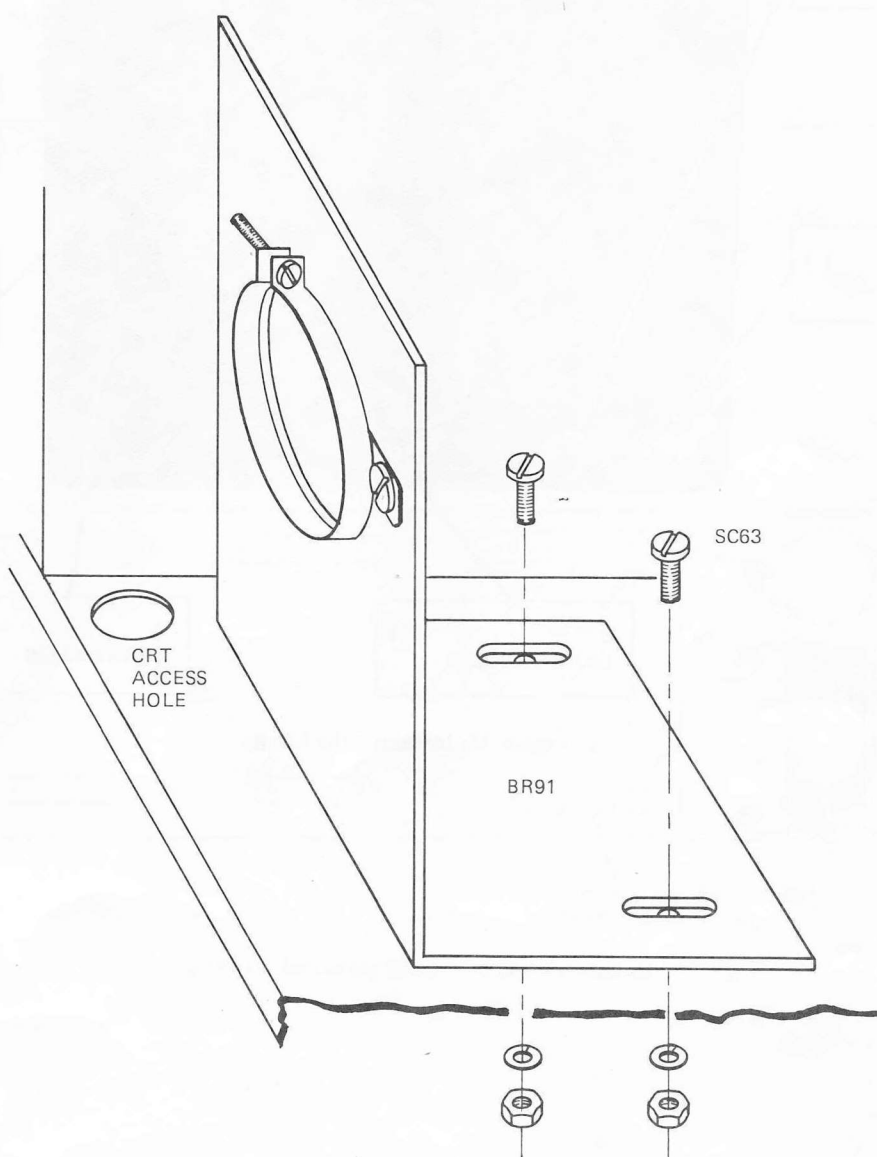

Figure 37. Installing BR91.
(5) Install BR91 on the main chassis using two 6-32 \times 1/4" machine screws, lockwashers, and nuts as shown in Fig.37. Do not tighten this hardware at this time ()